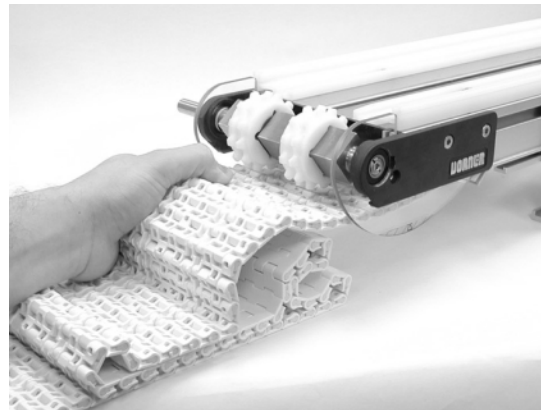

Figure 20
- Remove belt by pulling belt out of bottom wear strips. See figure 20.